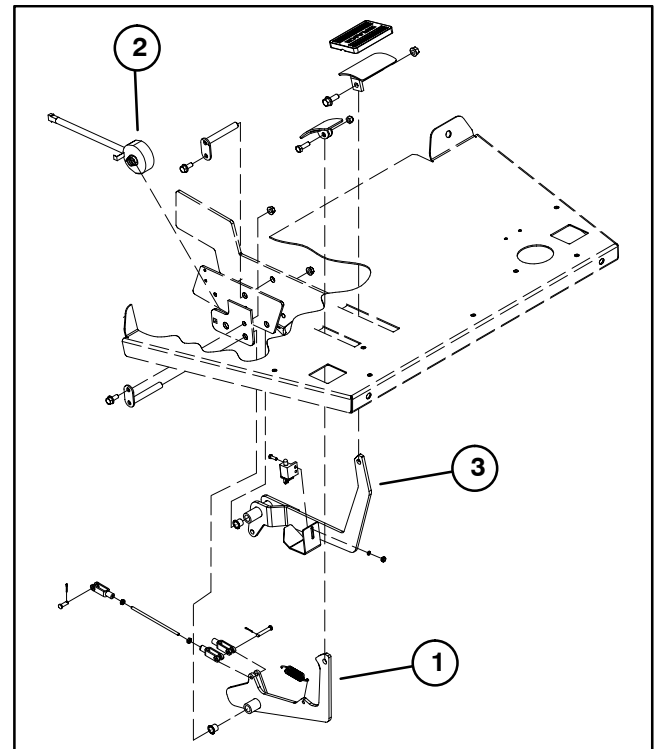

Figure 22
1. Locate control coil next to accelerator lever under the floorboard. Unplug coil connector from machine wire harness (Fig. 22).